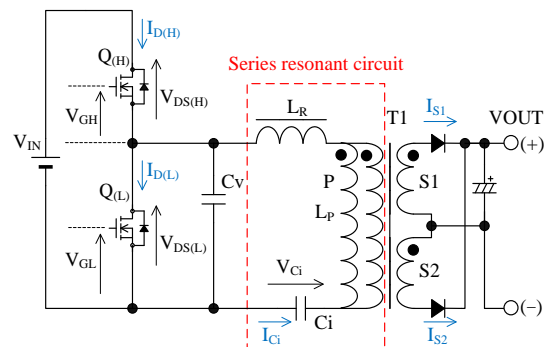
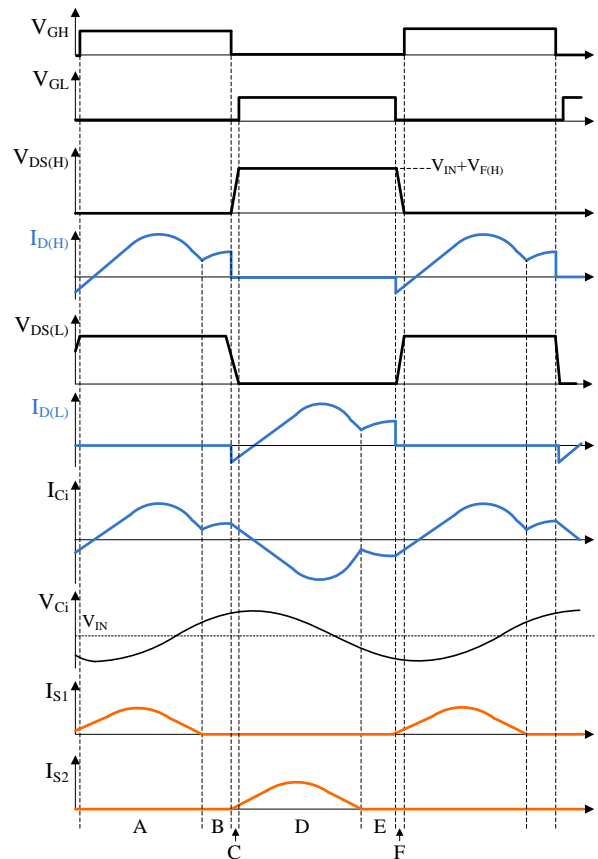

Figure 8-3. Current Resonant Power Supply Circuit
Figure 8-4. The Basic Operation Waveforms of Current Resonant Power Supply
Figure 8-3 shows the circuit of a current resonant power supply. The basic configuration of the current resonant power supply is a half-bridge converter. The switching device Q_(H) and Q_(L) are connected in series with V_{IN}. The series resonant circuit and the voltage resonant capacitor C_v are connected in parallel with Q_(L). The series resonant circuit is comprised of a resonant inductor L_R, a primary winding P of a transformer T1 and a current resonant capacitor C_i. In the resonant transformer T1, the coupling between primary winding and secondary winding is designed to be poor so that the leakage inductance increases. By using it as L_R, the series resonant circuit can be down sized. The dotted mark in T1 shows the winding polarity, the secondary windings S1 and S2 are connected so that the polarities are set to the same position shown in Figure 8-3, and the winding numbers of each other are equal.
Figure 8-4 shows the basic operation waveform of current resonant power supply (see Figure 8-3 about the symbol in Figure 8-4). The current resonant waveforms in normal operation are divided a period A to a period F. The current resonant power supply operates in the each period as follows.